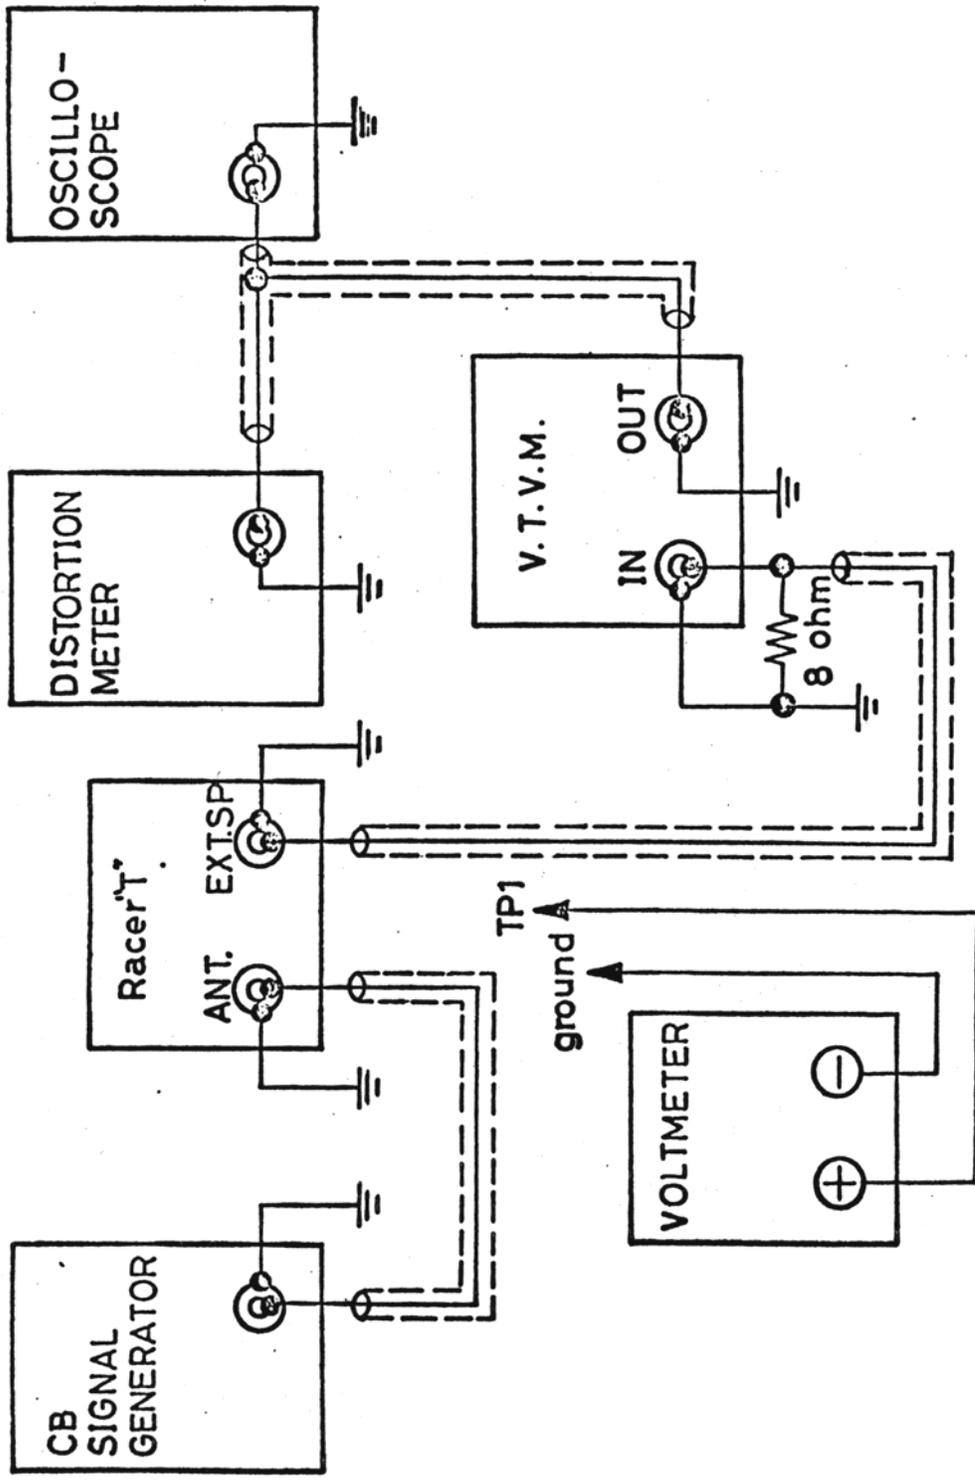

Figure 4
1. Allow test equipment and set at least fifteen (15) minutes to warm up before starting the alignment.
3. Output level of test set should be kept under two (2) volts.
5. Connection of the test equipment is shown in RECEIVER TEST EQUIPMENT SET-UP DIAGRAM. (See Figure 4.)